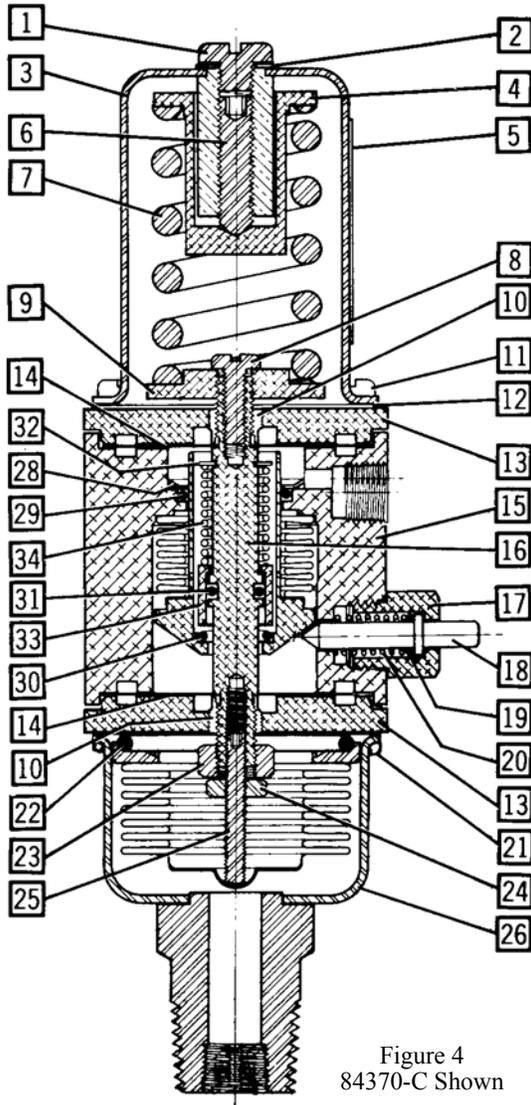

Figure 4
**MAINTENANCE - See Figure 4**